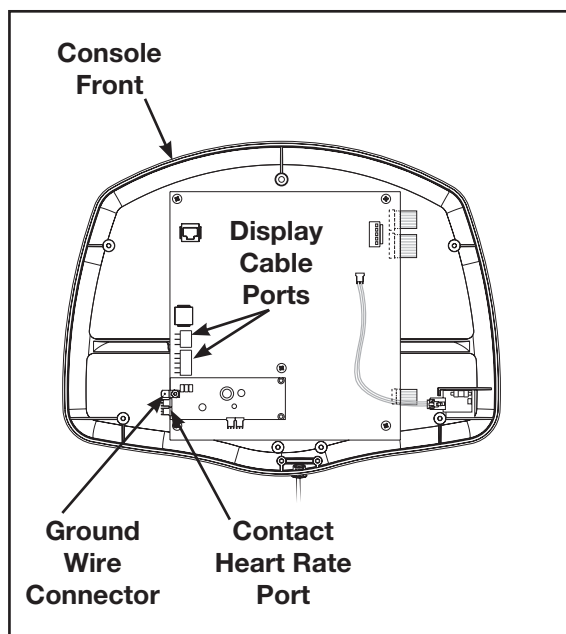

Figure 10
- D. Locate the display cable, contact heart rate cable and ground wire. Insert the cables into the display board. See Figure 10.